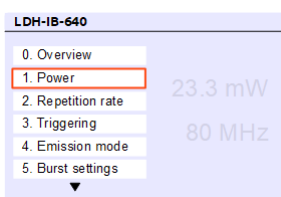

Fig. 11: The local interface main menu.
The local interface for the Taiko PDL M1 is menu based and uses a single push dial for navigation and setting of parameters. The main menu (see fig. 11) is accessed by simply pressing once on the push dial (D).